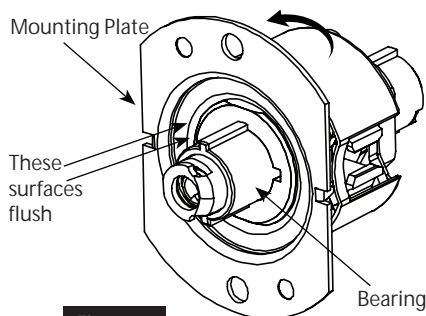

Figure 5
- For 2" thick door the inside face of the mounting plate should be flush with the face of the bearing. (Figure 5)